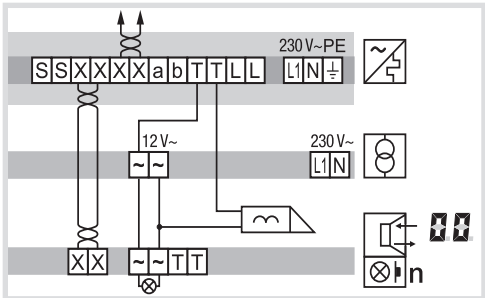

Figure 8: connection of device with manipulation protected door release
- For manipulation-protected installation, connect the door release to the contact of the line power supply (Figure 8).